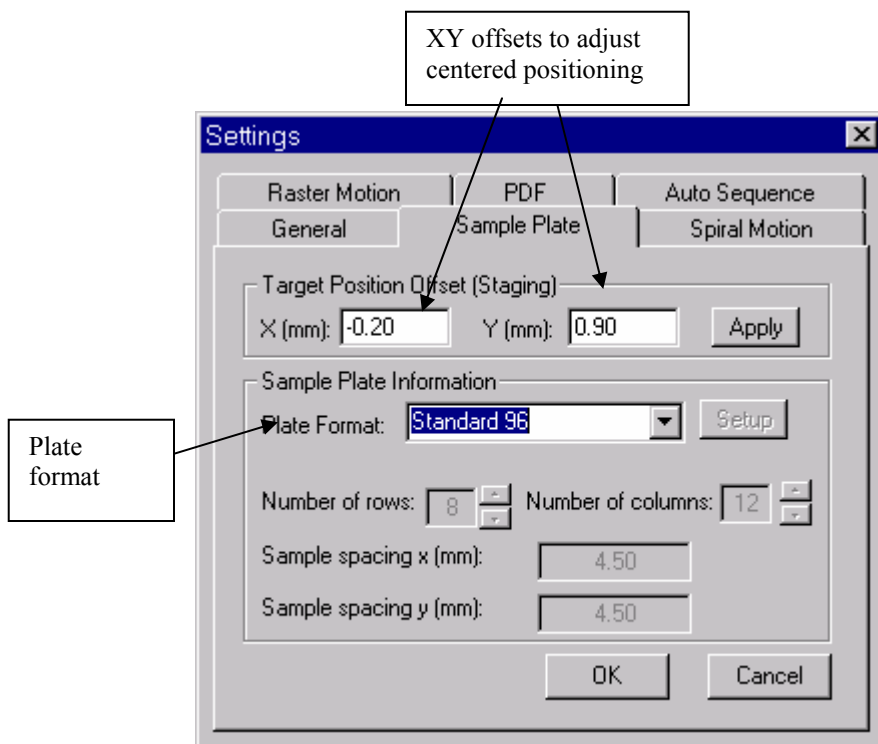
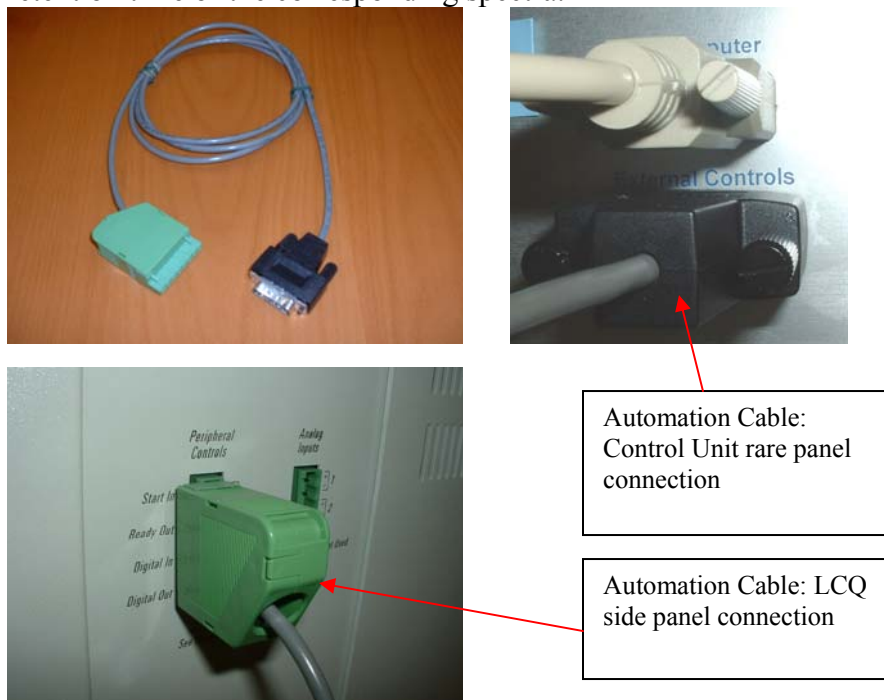

Fig. 7-14 Sample Plate settings in the Target software.
Fig. 7-22 External Control cable and its connection to the rare panel of AP/MALDI control unit and to the side panel of LCQ.
The second automated mode (that is called “External timing”) enables to record the spectra of a number of individual samples in separate files under separate user-defined names. Now LCQ communicates with AP/MALDI source through exchange of bi-directional “Start” and “Ready” signals. This mode of operation requires a special “External control cable” for connecting the AP/MALDI’s “External Control” connector on the Control Unit rear panel with the LCQ’s “Peripheral Controls” connector. The cable and its connection are shown in the Fig. 7-22.
The selection between the two Automation modes is implemented in the “Auto Sequence” tab of “Settings” dialog box of Target software (the dialog is activated through “Settings” menu item). It is shown in Fig. 7-22.
1. For External Timing mode, **connect** the “External Control” connector on the Control Unit’s rear panel to the LCQ “Peripheral Controls” port (Fig. 7-22).
2. **Check** the “AutoSequence” button is activated in the main *TARGET* software window (see Fig. 7-14) and **check** the “External Timing” radio button in the *TARGET*’s “Settings Dialog” window (see Fig. 7-22).
3. **Check** the “AutoSequence” button is activated in the main *TARGET* software window (see Fig. 7-14). For Internal Timing, **check** the “Internal